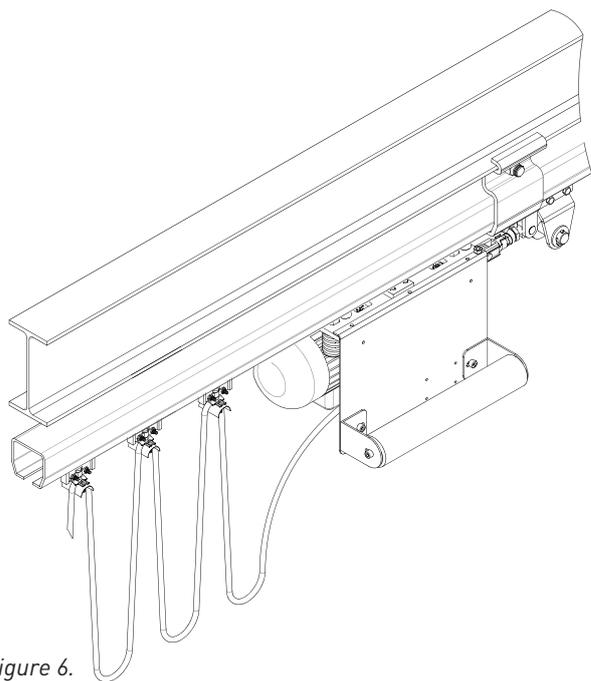

Figure 6.
STEP 9: The power supply cable has to pass through the clamps of the cable trolleys that move inside the cross bridge track and long travel track. See Figure 6.